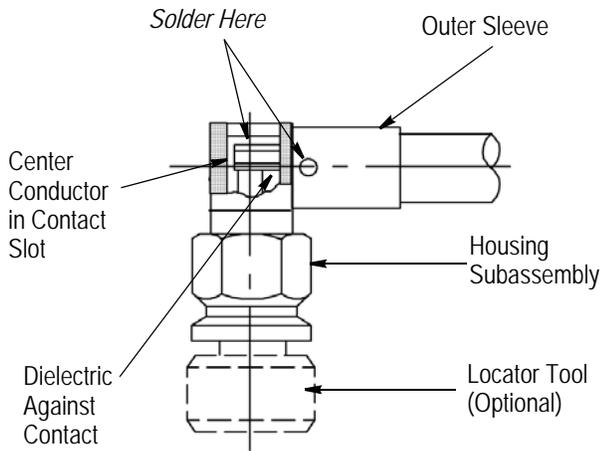

Figure 3
- Secure the housing subassembly to the locator tool as shown in Figure 3. Secure the housing subassembly in a small bench vise.
- Insert the center conductor into the housing subassembly making sure that the center conductor sits in the contact slot and the dielectric is against the contact. See Figure 3.
6. Place the soldering iron on the tip of the contact, and solder. Refer to Figure 3.
7. Slide the outer sleeve over the cable braid, and solder the hole in the outer sleeve. See Figure 3. Trim excess braid strands.